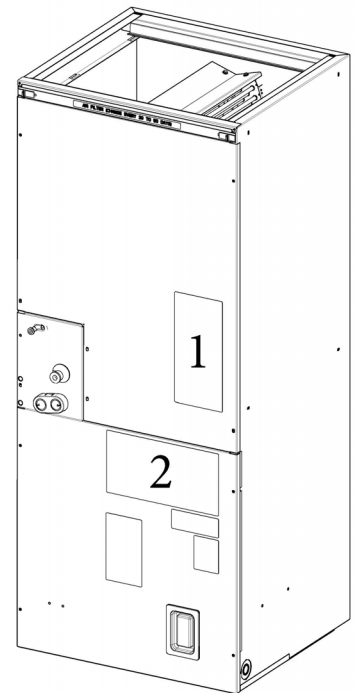

Fig. 6 – Refrigerant Label Locations
5. Adhere the provided labels to the outside of the casing on a clean, dry and firm surface (Fig. 6).
7. Adhere the provided labels to the outside of the casing on a clean, dry and firm surface (Fig. 6).
As this coil is used with Puron Advance (R-454B), additional warnings are required. The NAVA5 Coil Kit comes with a Literature Kit/Bag that contains the Installation Instructions and Regulatory Required Labels. This bag contains an “**Important Notice**” sheet to draw your attention to the Installation Instructions and labels. To ensure compliance with UL/CSA 60335-2-40, place labels in their indicated location based on Fig. 6 and Table 2.